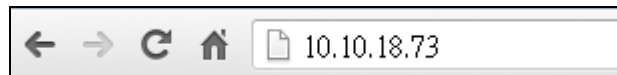

Figure 3-31: IEI iMAN Web Address
Step 2: On the remote management console, open a web browser. Enter the managed system IP address in the web browser (**Figure 3-31**).